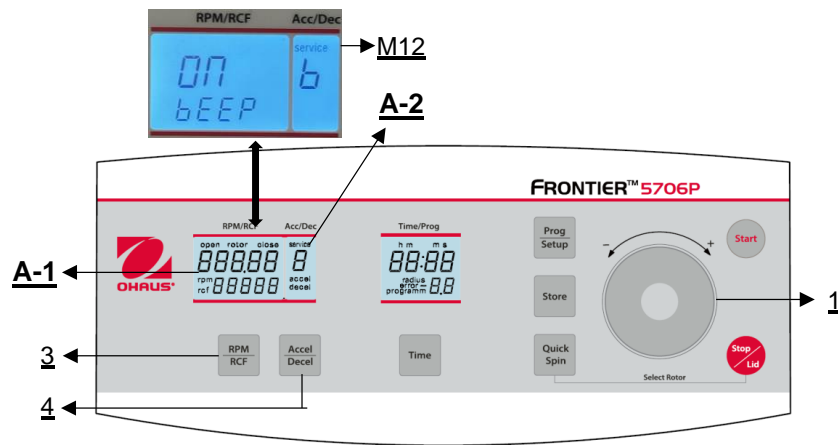

Figure 31
Proceed as described under point 4.1.1 to enter this program mode and then press the key "**Accel/Decel**" (4). In the display "**Acc/Dec**" (A-2) the word "**Service**" (M12) flashes. Now select the letter "**b**" with the touch wheel (1). As a result, in the display "**RPM | RCF**" (A-1), the word "**ON/BEEP**" appears. After pressing the key "**RPM | RCF**" (3), you can turn the keyboard sound (On) or (Off) with the touch wheel (1) (see figure 31).